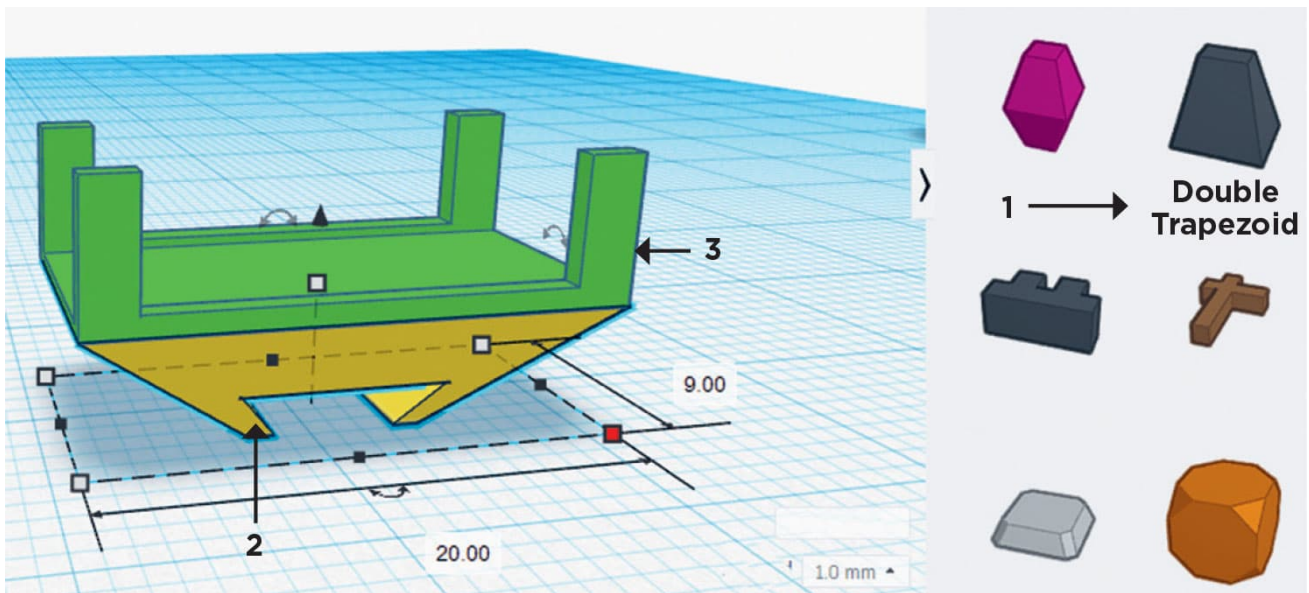

FIG. 6: The camera holder cradle with a dovetail joint section created using a double trapezoid.
6. The camera mount will have to be created as a separate piece so it can be 3D printed easily. The camera mount is a basic cradle that holds the camera in it with a press fit. Simply create a camera mount that attaches to the ball handle using a dovetail joint from Lab 13 (shown here). This will require two parts: the dovetail joint mate and the cradle. The dovetail joint mate (arrow 2 in fig. 6) that attaches to the cradle is created using a **Double Trapezoid** tool from the **Shape Generators Tool Box** (arrow 1 in fig. 6).
7. The cradle is created using multiple **Box** tools to create the shape shown by arrow 3 in fig. 6. The camera will fit snugly in the cradle, so the width of the cradle should match the thickness of your camera (about 7 mm for some cellphone cameras). Then merge the cradle and the cradle mating double trapezoid from step 6 (fig. 6).